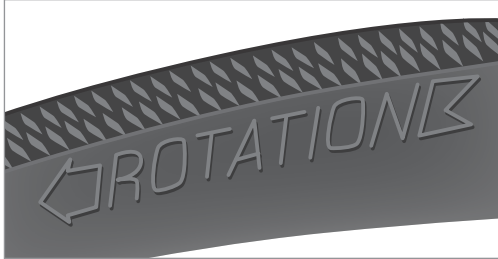

Figure 1
1. Check for tread direction markings on the tire sidewall. Orient tread direction on the rim so the tire will rotate in the proper direction when installed on the bike (Fig.1).